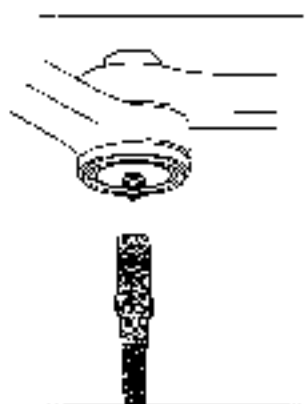

Figure 16-5:
4. Place the grease gun to the fitting and gently squeeze a little bit of grease into it (see Figure 16-5).